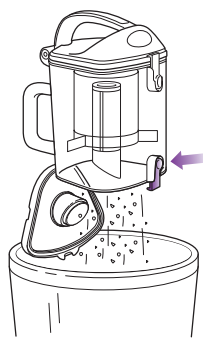

Fig. 20
- 2 Hold the dust cup over a trash receptacle and press the bottom door release button. (Fig. 20) Tap gently to empty contents. Press the door shut again until it clicks.